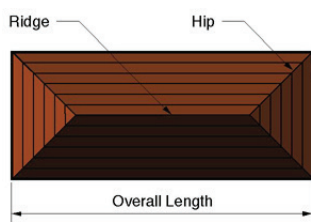

Fig 5.2.1
- (i) **HIP ROOFS:** Treat the roof initially as a straight gable. Find the overall length (Fig 5.2.1) and refer to Table 5.1 to calculate the number of tiles required for the coverage. Multiply the result by the number of courses of tiles needed to cover the rafter length. Multiply again by two when calculating both sides of the roof. Find the total hip length and using the formulae shown in (iii), calculate the tiles required for the hips. Add this to the tiles required for the body of the roof.